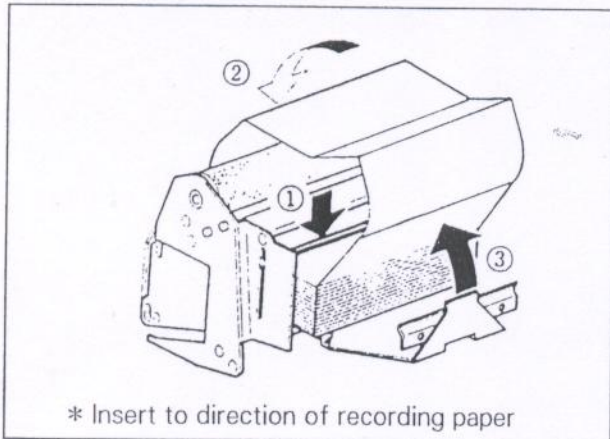

Fig 5.6
2) Pull forward the recording paper 20cm as figure 5.6, hang it on paper holder and roller hole as "2" and insert the recording paper.